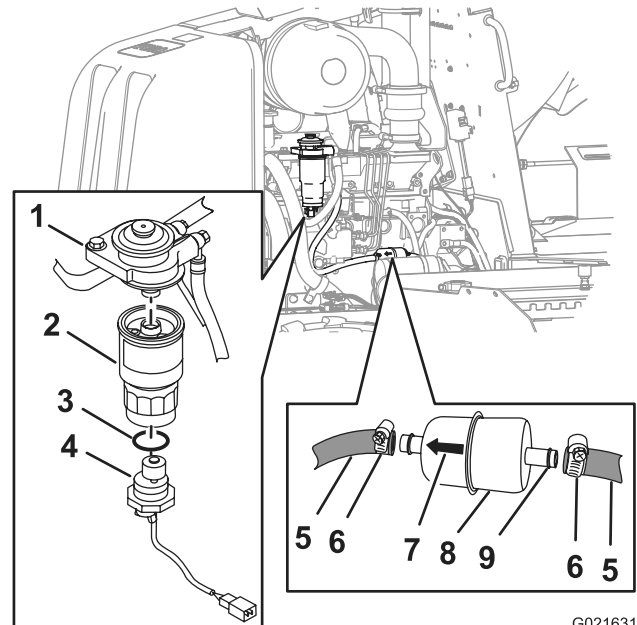

Figure 55
- C. Firmly grasp the secondary fuel-filter element, rotate the water sensor counterclockwise, and remove the water sensor (Figure 55).
- D. Firmly grasp the secondary fuel-filter element, rotate it counterclockwise, and remove it from the filter adapter (Figure 55).
- B. Align the new secondary filter element to the filter adapter (Figure 55).
- D. Slip the new O-ring over the water sensor (Figure 55).
- E. Align the water sensor to the bottom of the secondary fuel filter (Figure 55).
- F. Firmly grasp the secondary filter element, and rotate the water sensor clockwise until it is hand tight (Figure 55).
3. Loosen the hose clamps and separate the primary fuel filter from the fuel hoses (Figure 55).
4. Align the new primary fuel filter to the hoses with the arrow printed on the filter pointing forward (Figure 55).
5. Slip the hoses over the hose fitting of the primary fuel filter, and tighten the hose clamps (Figure 55).